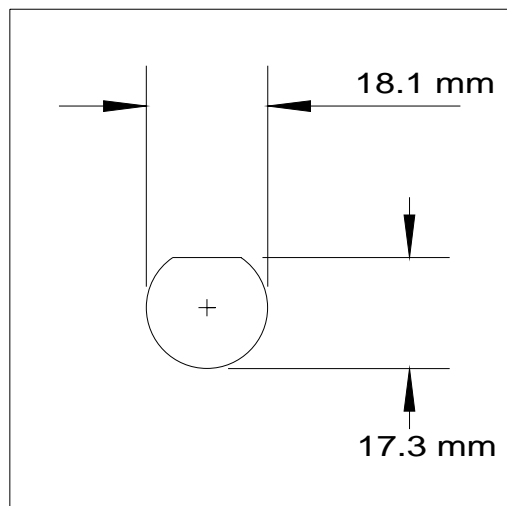

Figure 2: Panel Hole Dimensions for Fischer Panel-Mount Connector
1. Cut D-holes in panel for Fischer panel-mount connectors (see Figure 2) and 1/8" holes for sealing cap tether rings.